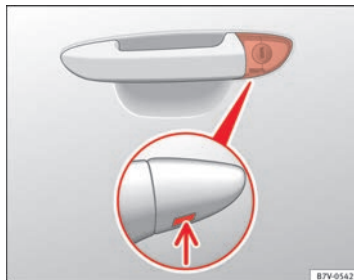

Fig. 191 Driver door handle: Hidden lock cylinder
- Insert the key shaft into the opening in the cover on the driver door handle from below ⇒ Fig. 191 (arrow) then remove the cover upwards.